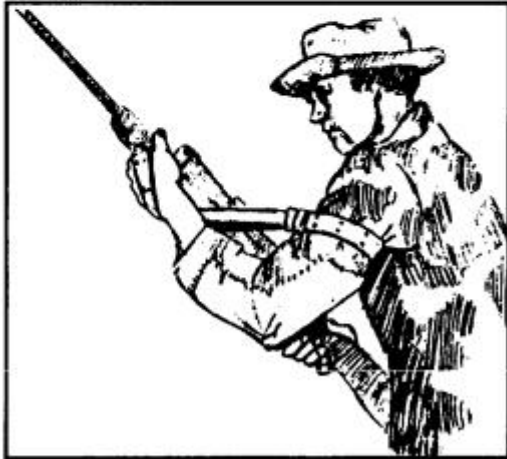

Figure 2-12. Proper placement of the sling.
(6) The sniper moves his nonfiring hand from the outside of the sling to the inside of the sling between the rifle and the sling. The sniper then grasps the forearm of the weapon, just behind the sling swivel with his nonfiring hand. He forces it outward and away from his body with the nonfiring hand (Figure 2-12).
(7) The sniper pulls the butt of the weapon into the pocket of his shoulder with the firing hand. He then grasps the weapon at the small of the stock and begins the aiming process.